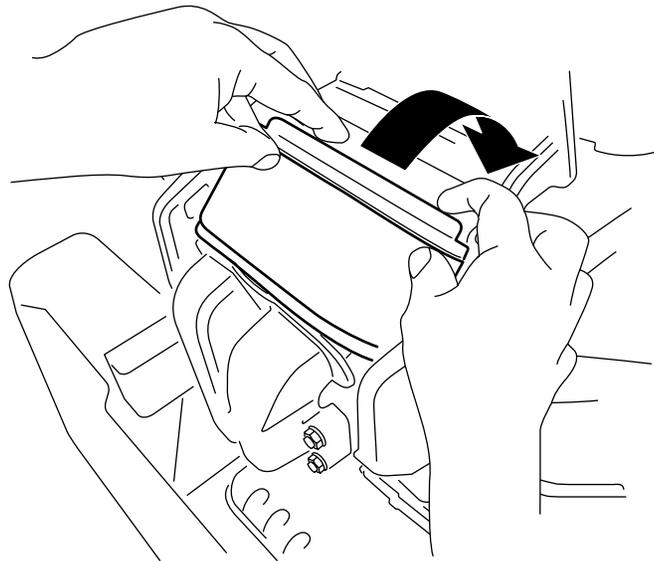

Figure 36
3. Rotate the filter down into the chamber and fully seat it against the manifold (Figure 36).